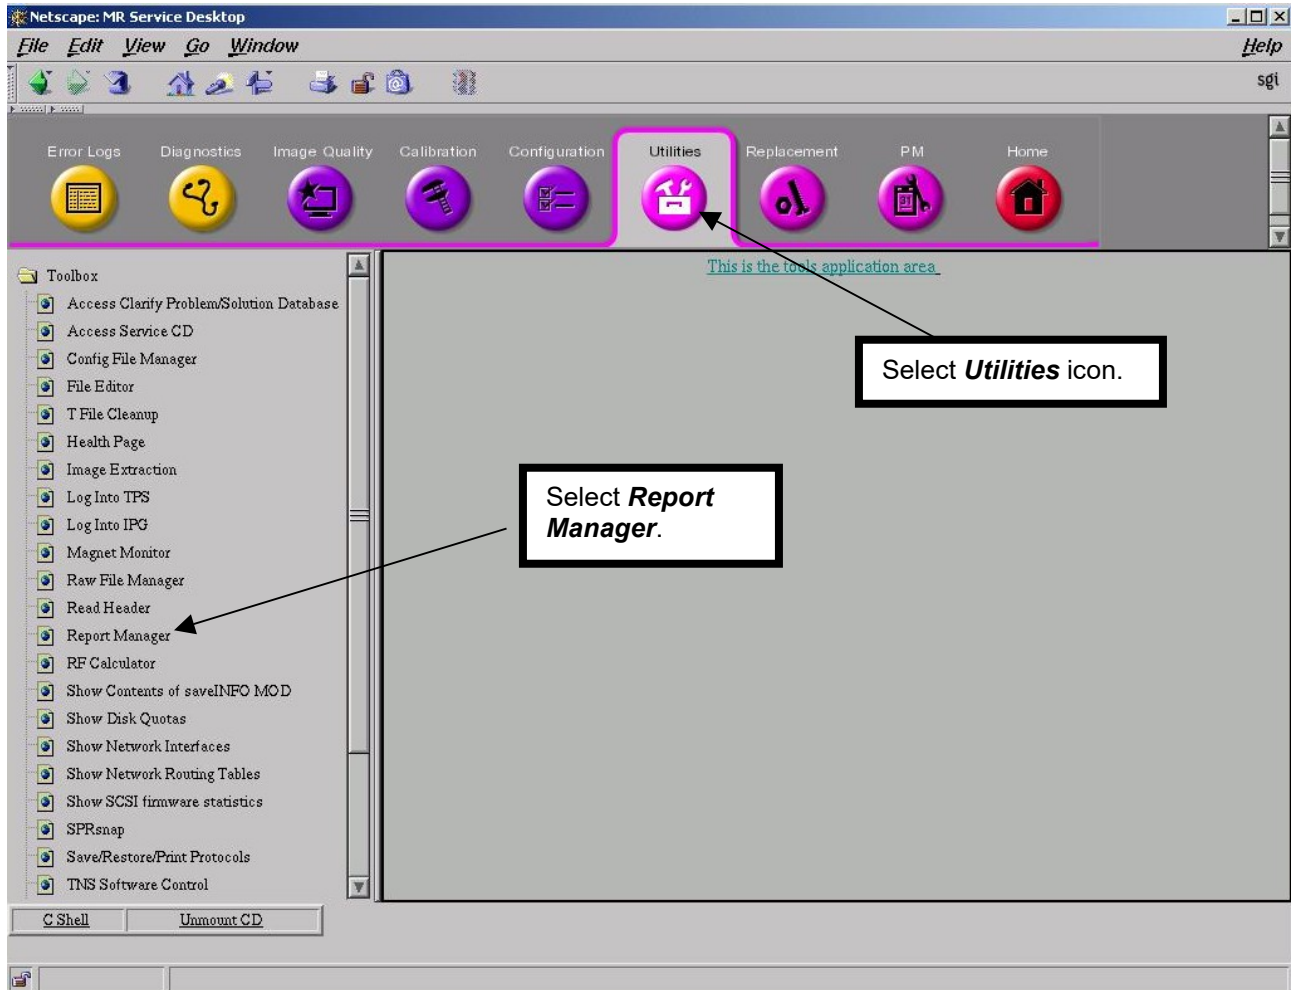

Figure 4
- To view test results, the Report Manager must be accessed. Click the Utilities icon on the Common Service Desktop, and then click on "Report Manager" in the left column. See Figure 4.